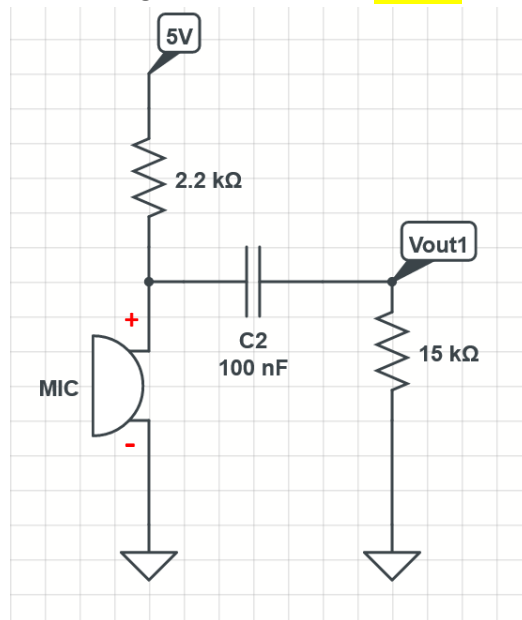

Figure 3: Microphone with the High Pass Filter
3. Connect the circuit as shown in Figure 3 and connect ‘Vout1’ to ‘CHA’.